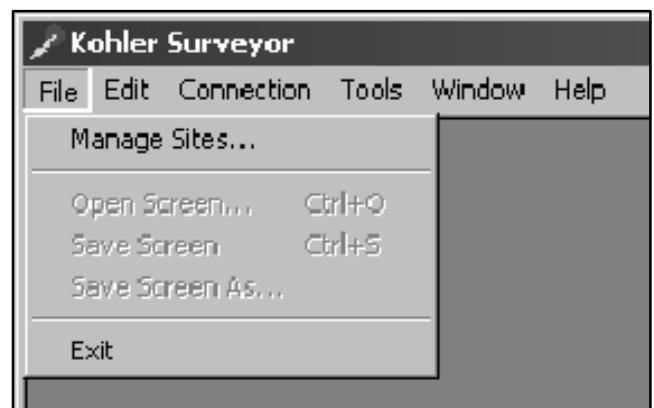

Figure 2-4 File Menu
The Screen commands are disabled if no windows are displayed. See Figure 2-4.
1. Select *File>Save Screen As* from the menu bar as shown in Figure 2-4.